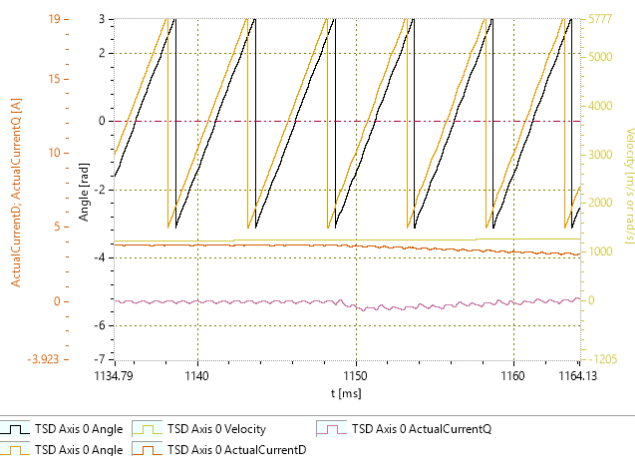

Figure 7: Before optimization of acceleration feed forward.
3. Minimize the difference between the commutation angle and the sensorless angle during the acceleration by adjusting the acceleration feed forward. Figure 7 and 8 show the plots before and after the optimization.